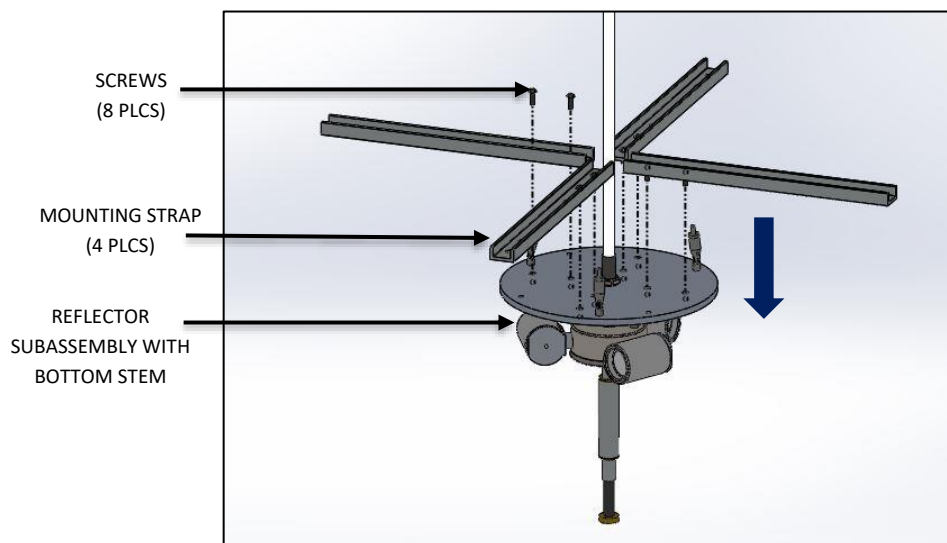

FIG. 14 – MOUNTING
2. Assemble MOUNTING STRAPS to REFLECTOR ASSEMBLY by SCREWS provided.as shown below in FIG. 14.